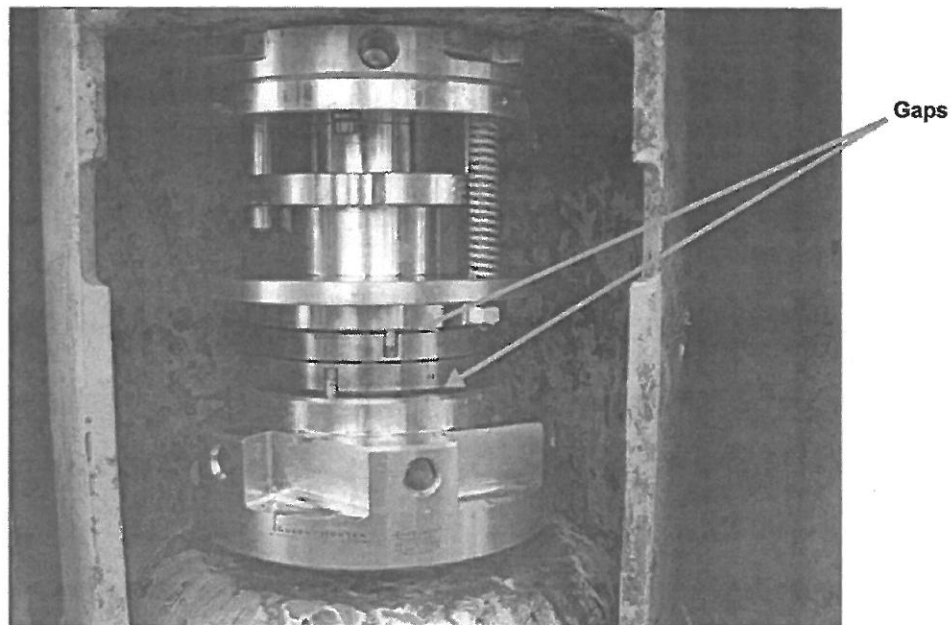

Figure 3-16. Mechanical Seals Installed
14. Figure 3-16 shows the mechanical seals installed correctly. (Note that safety wire has not been properly installed on the cap screws.)
Figure 3-16 shows small gaps between the upper seal surface of the Top Stationary Seal and the lower seal surface of the Bottom Rotating Seal. These gaps are normal after installation and are caused by the O-rings. The O-rings will compress and the gaps will go away when mud pressure is applied to the system.